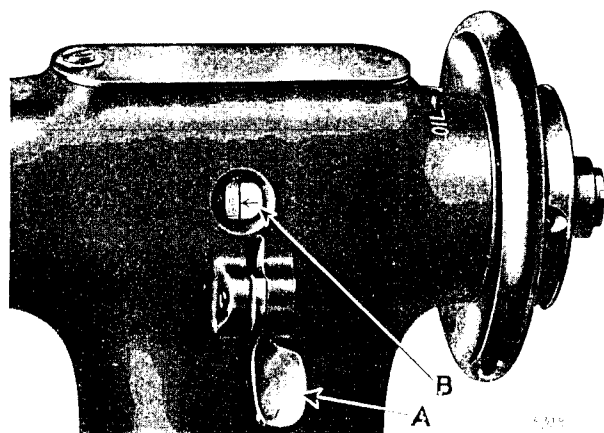

Fig. 16. Stitch Regulator
Press the stitch regulator lever (A, Fig. 16) and at the same time turn the balance wheel over toward you until the lever (A)
engages the notch in the stitch regulator flange (B, Fig. 16). Continue to hold the lever (A) in the notch in the flange (B) and at the same time turn the balance wheel backward or forward, as required, until the number of the desired length of stitch is opposite the arrow, as shown in Fig. 16, then release the lever (A).